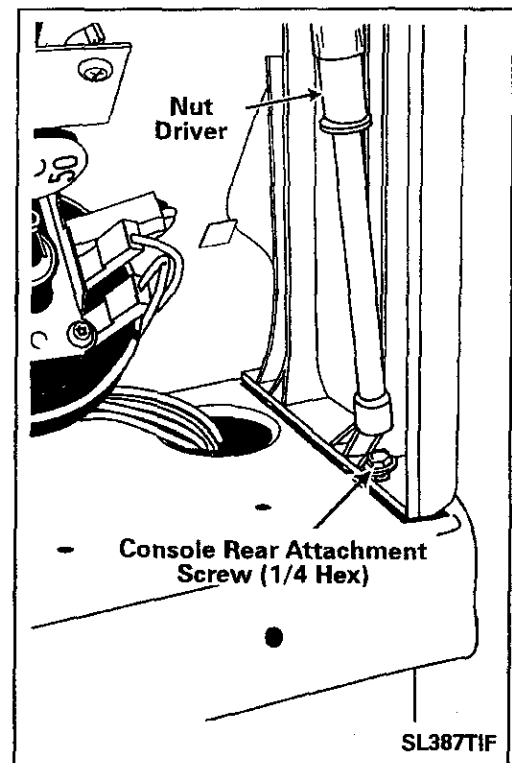

Figure 6
3. Locate the two console reattachment screws in the kit. Insert the screws through the base of the console and into the top cover. Fasten the screws down into the top cover. (*Figure 6*)